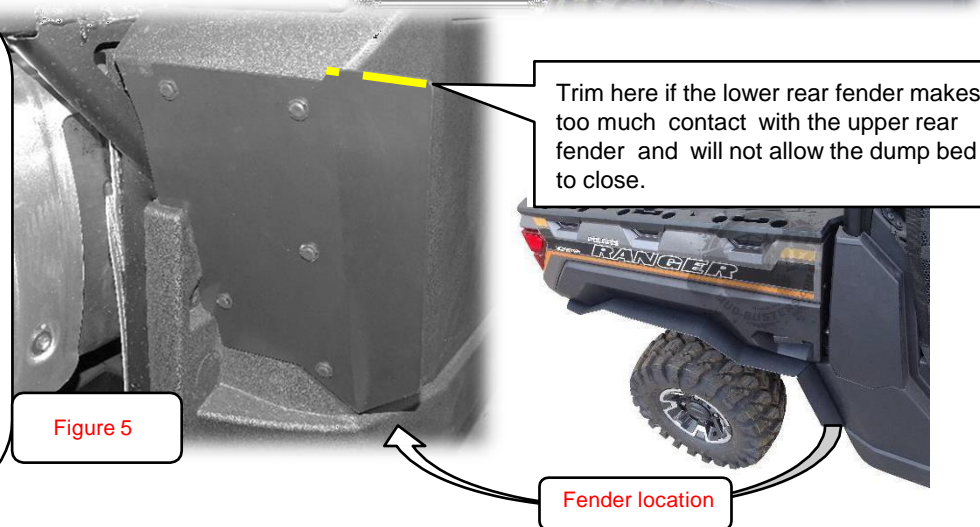

Figure 5
- 1) Place the lower rear fenders against the body as shown in **Figure 5**.